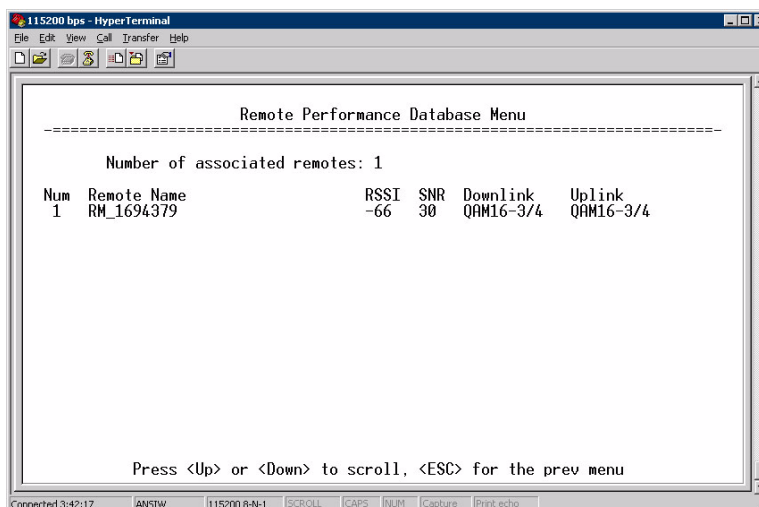

Figure 3-94. Remote Performance Database Menu
- **Remote Performance Database (AP Only)**—Displays a submenu where associated Remote performance data is listed in table form. Remotes are presented according to their number, MAC address, RSSI, SNR, modulation type, and FEC total. (See Figure 3-94 on Page 121.)